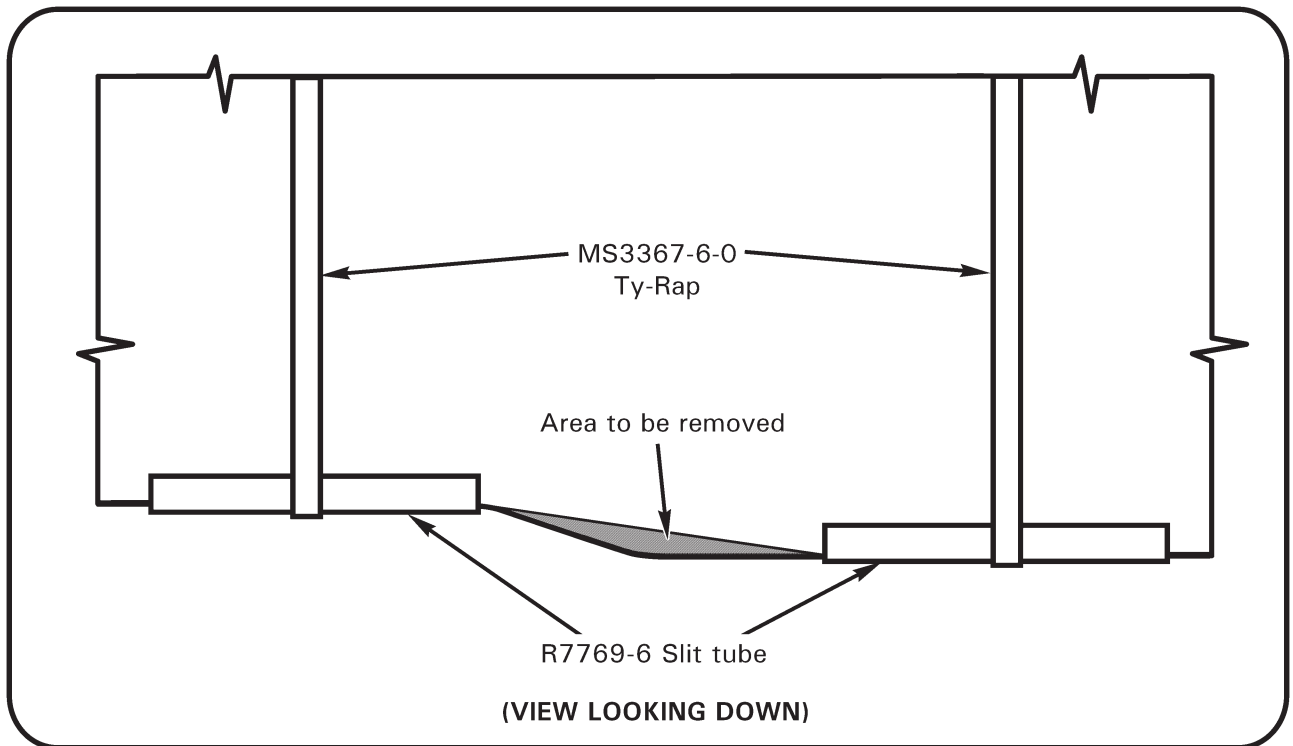

FIGURE 2
5. Refer to Figure 2. Install R7769-6 slit tubes onto trailing edge to protect areas shown. Use two MS3367-6-0 ty-raps to secure tubes as shown. Remove material in marked, triangular-shaped area by filing. Hand-file spanwise towards blade tip from corner while holding file square to trailing edge. A sharp single-cut, flat file is recommended; clean file frequently to minimize burrs. Remove ty-raps and tubes after filing (tubes may be reused by cutting off area worn by filing).